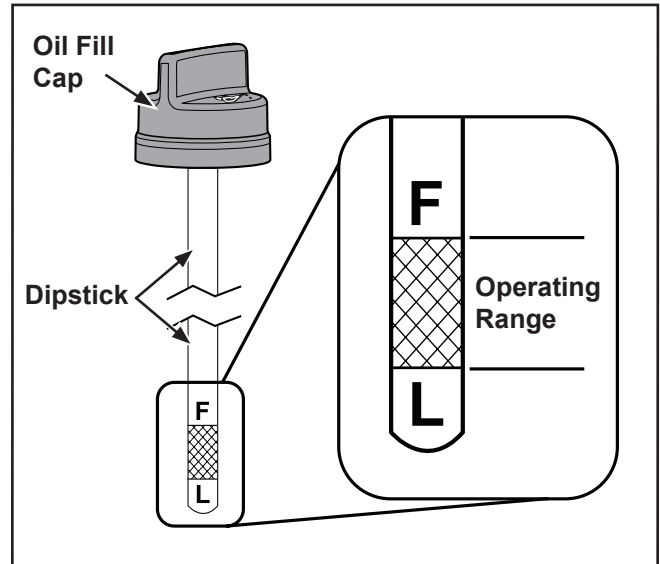

Figure 15. Correct Oil Level.
4. Unscrew and remove the oil fill cap/dipstick and check that oil level is correct. The correct oil level is between the F and L marks on the dipstick. See Figure 15.